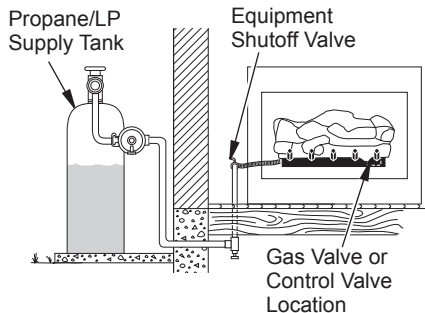

Figure 16 - Checking Gas Joints (Propane/LP Only)
3. Check all joints from gas meter to equipment shutoff valve for natural gas or propane/LP supply to equipment shutoff valve for propane/LP (see Figure 16 or 17). Apply noncorrosive leak detection fluid to all joints. Bubbles forming show a leak.
4. Check all joints from equipment shutoff valve (see Figure 16 or 17, page 16). Apply noncorrosive leak detection fluid to all joints. Bubbles forming show a leak.